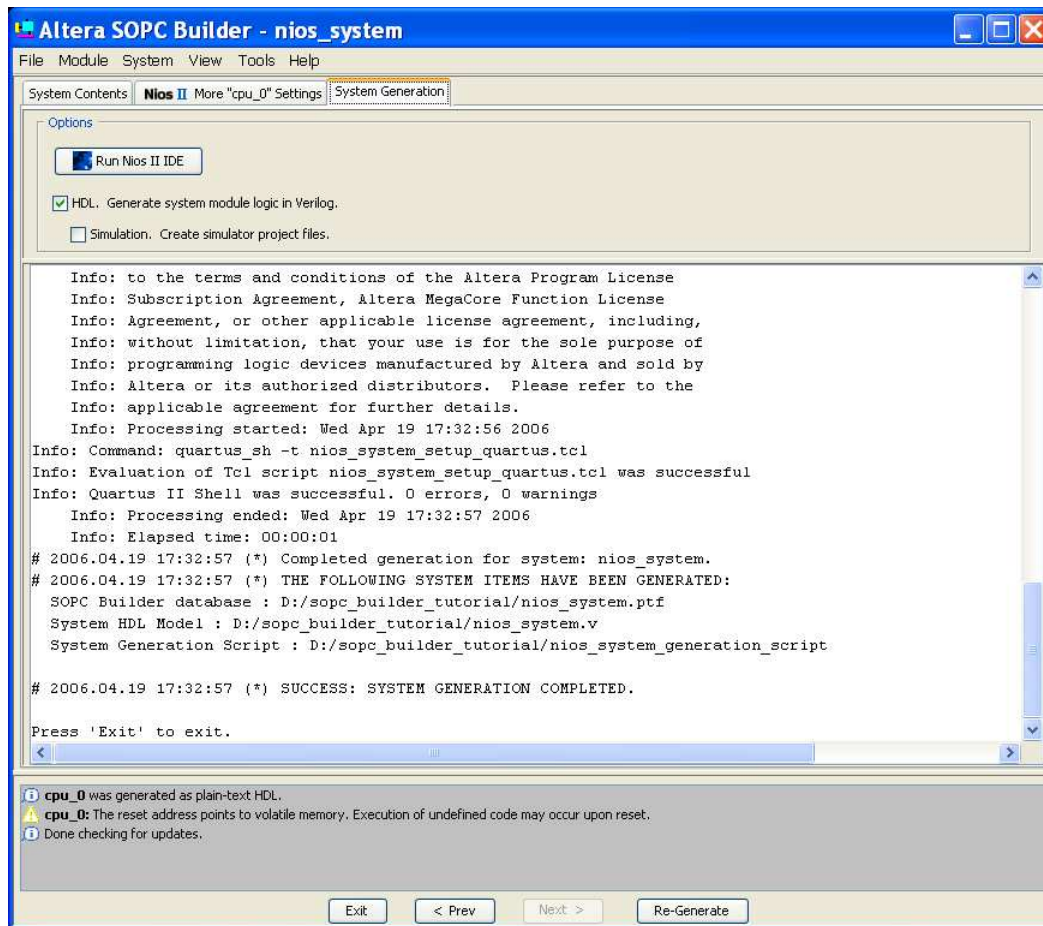

Figure 15. Generation of the system.
12. Having specified all components needed to implement the desired system, it can now be generated. Select the System Generation tab, which leads to the window in Figure 15. Turn off Simulation - Create simulator project files, because in this tutorial we will not deal with the simulation of hardware. Click